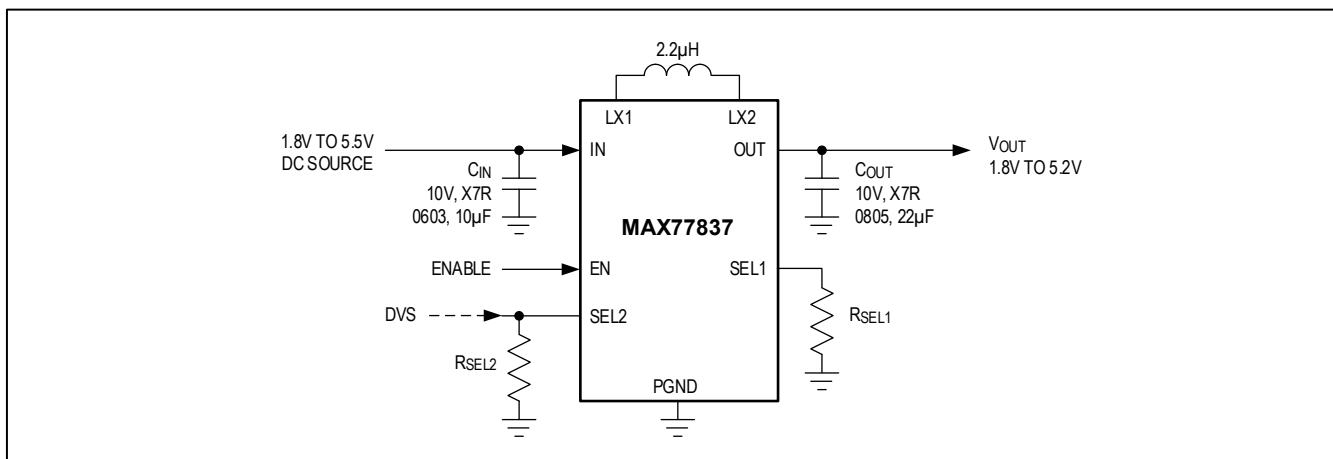
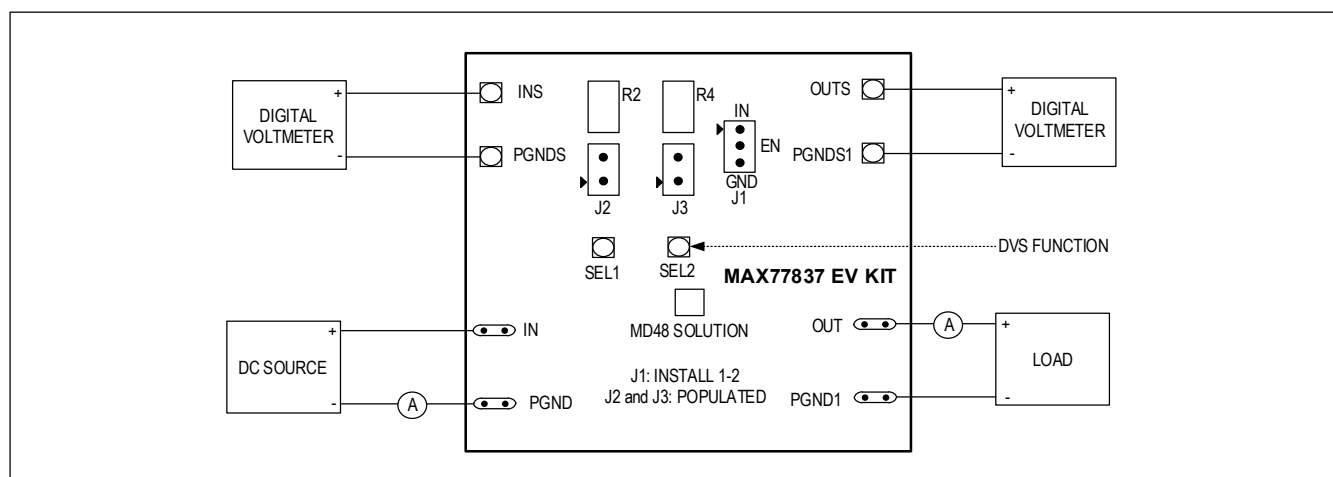

Figure 2. MAX77837 Typical Application Circuit
Figure 3. MAX77837 EV kit Simplified Block Diagram
See Figure 2 for a Simplified EV kit circuit diagram and a typical bench setup for MAX77837 EV kit is shown in Figure 3.
1. Identify the connections and test points shown in Figure 3. Ensure that the EV kit has the correct jumper settings, as shown in Table 2.